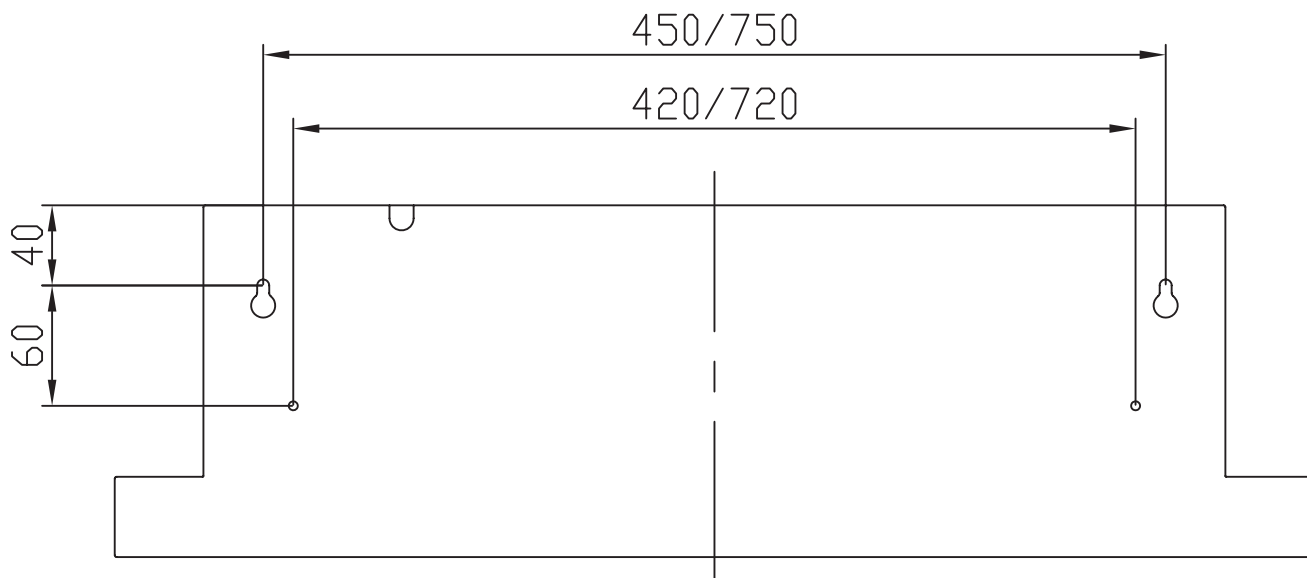

Figure 12
- Drill 4 holes of $\text{Ø}8\text{mm}$ on the wall, as illustrated below (Figure 12).